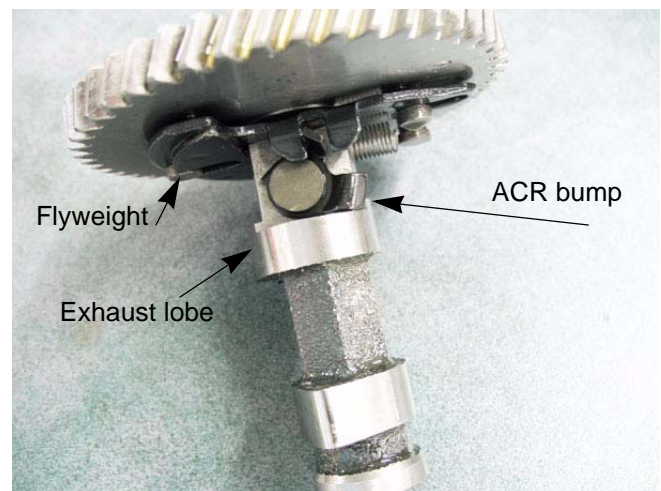

Figure 3.12
3. If the two above conditions were ok, then open the engine and look at the ACR on the cam shaft. See Figure 3.12.